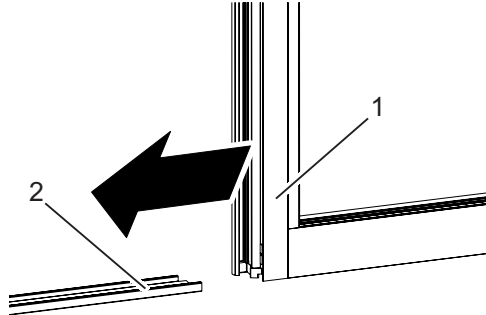

Fig. 15: Fixed panel
- Move the fixed panel (Fig. 15/1) into the intended position and slide it with the lower edge onto the bottom rail (Fig. 15/2).